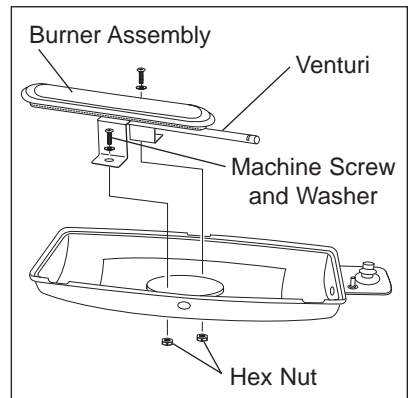

Figure 10
2. Refer to Figure 10 and locate the two machine screws that secure the Burner Assembly to the grill. Loosen and remove these screws, making sure you retain the screws, washers and hex nuts for reassembly.
3. Carefully pull back on the Burner Assembly, disengaging the venturi from the Regulator Assembly. Please see Figure 10. Since the Ignitor is still attached to the Burner Assembly, use care to avoid stressing the cable. There is enough slack available to allow you to look into the end of the venturi and clean with a pipe cleaner if needed.